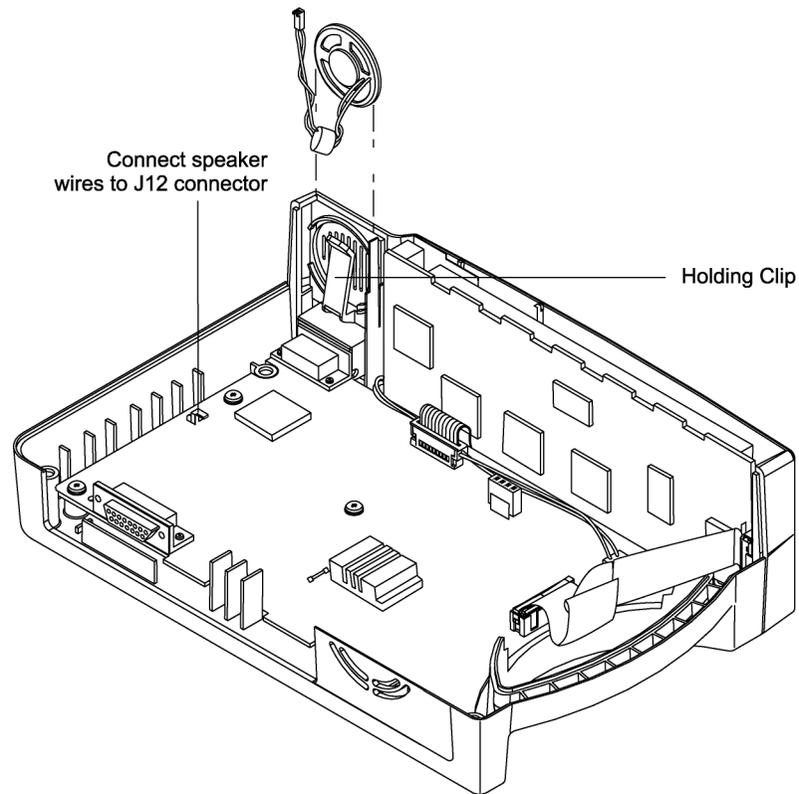

Figure 13: Alarm Speaker
2. Disconnect the speaker wire harness from J12 on the User Interface PCB (Figure 13).